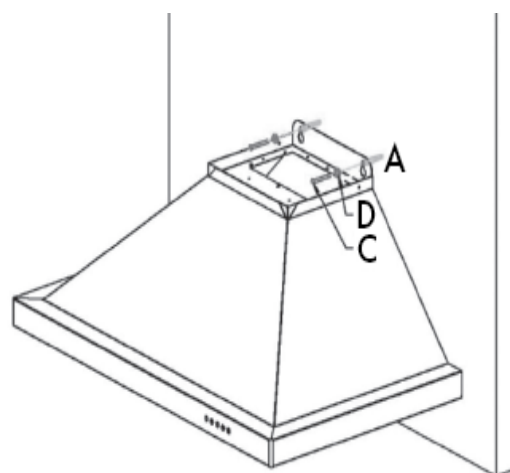

Figure 2
2. Drill holes into each mounting point with a suitable sized bit. Tap 2 anchors (A) into the holes, then fasten 2 mounting screws (D) and washers (C), making sure to leave the screw heads out roughly 1/4" in order to mount the hood. *Figure 2*
3. Using at least two people, mount the main body of the hood onto the two screws and slide into place. *Figure 2*